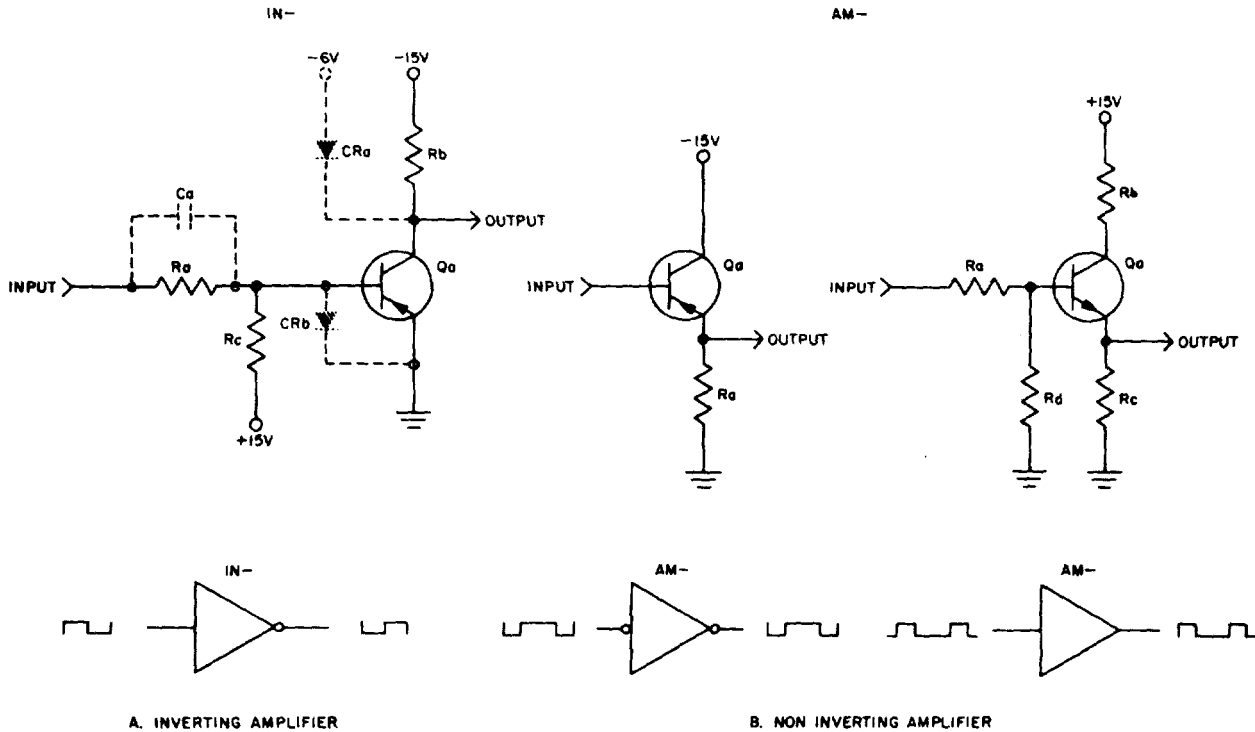

Figure 5-7. Amplifier stages, schematic diagram and logic symbol.
(fig. 5-7)
- (1) In the amplifier circuit shown in A, figure 5-7, resistor  $R_a$  is a limiting resistor and may be bridged by speedup capacitor  $C_a$ . Resistor  $R_c$  provides initial bias for the stage, and resistor  $R_b$  is the collector load resistor. Optional diode  $CR_b$  acts to limit the forward bias of transistor  $Q_a$ . Optional diode  $CR_b$  acts to clamp the cutoff output to -6 volts.
- (2) In the amplifier circuits shown in B, figure 5-7, PNP transistor  $Q_a$  (left side) uses resistor  $R_a$  as the emitter-load resistor to provide a low-level output. NFN transistor  $Q_a$  (right side) is used to provide a low-level output (developed across emitter resistor  $R_c$ ). An NPN transistor is used in some cases to provide a high